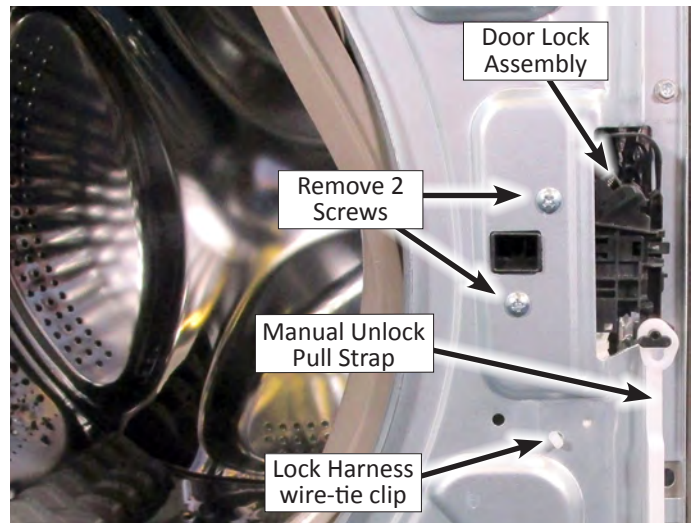

Figure 1
8. Remove the manual door unlock strap from the lock assembly (see Figure 1).
9. Using a pair of needle nose pliers, depress tabs on clip and push through the bulkhead (see Figure 1).
10. Remove the two (2) Phillips screws securing the lock assembly to the bulkhead (see Figure 1).